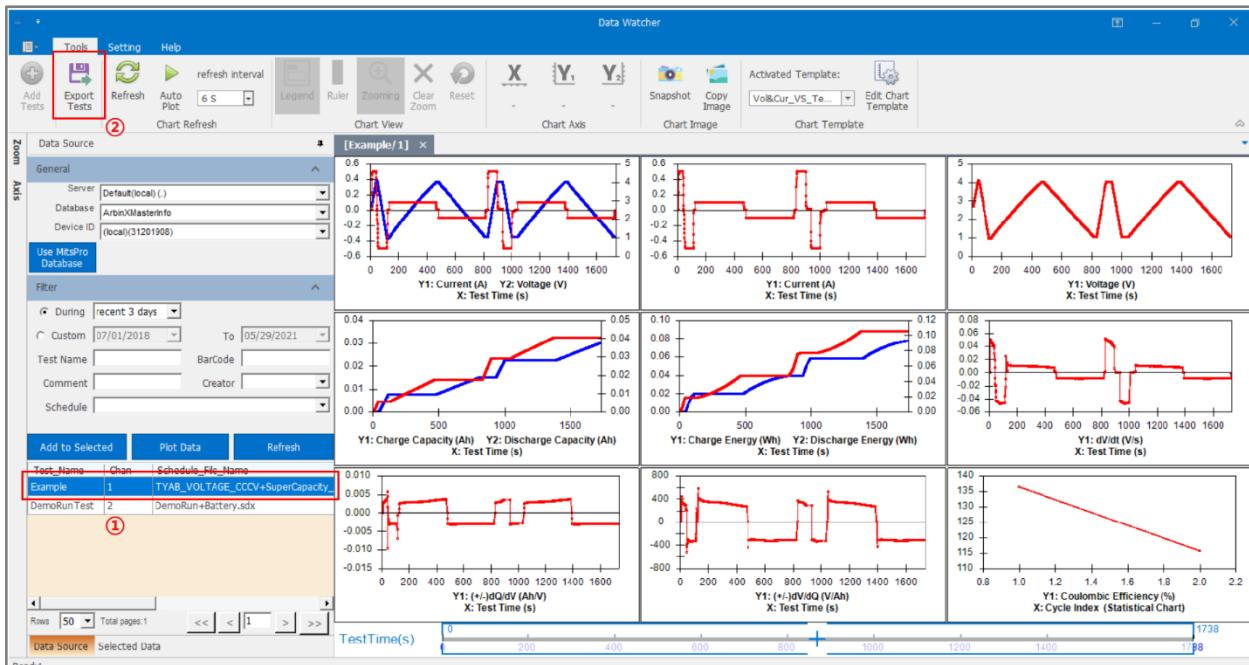

Figure 11-8 Data Source Panel
- 3) Select the test name for the data you want to export in the area marked with ① in Figure 11-8 below.
- 4) Click on the Export Tests button  marked with ② on the DataWatcher Toolbar to open the Export dialog box.